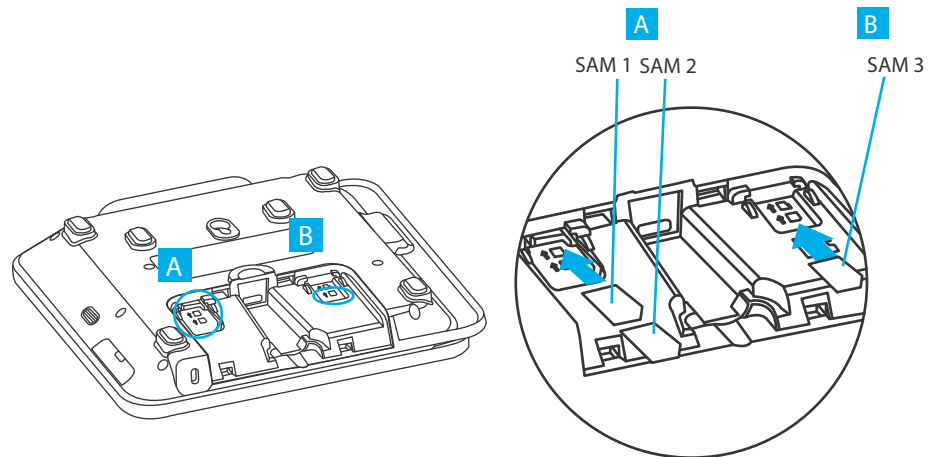

Figure 7 MSAM Insertion
- 4 Insert the MSAM cards. Carefully slide the cards one at a time into the slots until fully inserted. The correct orientation of the MSAM card is as indicated in the Figure 7.